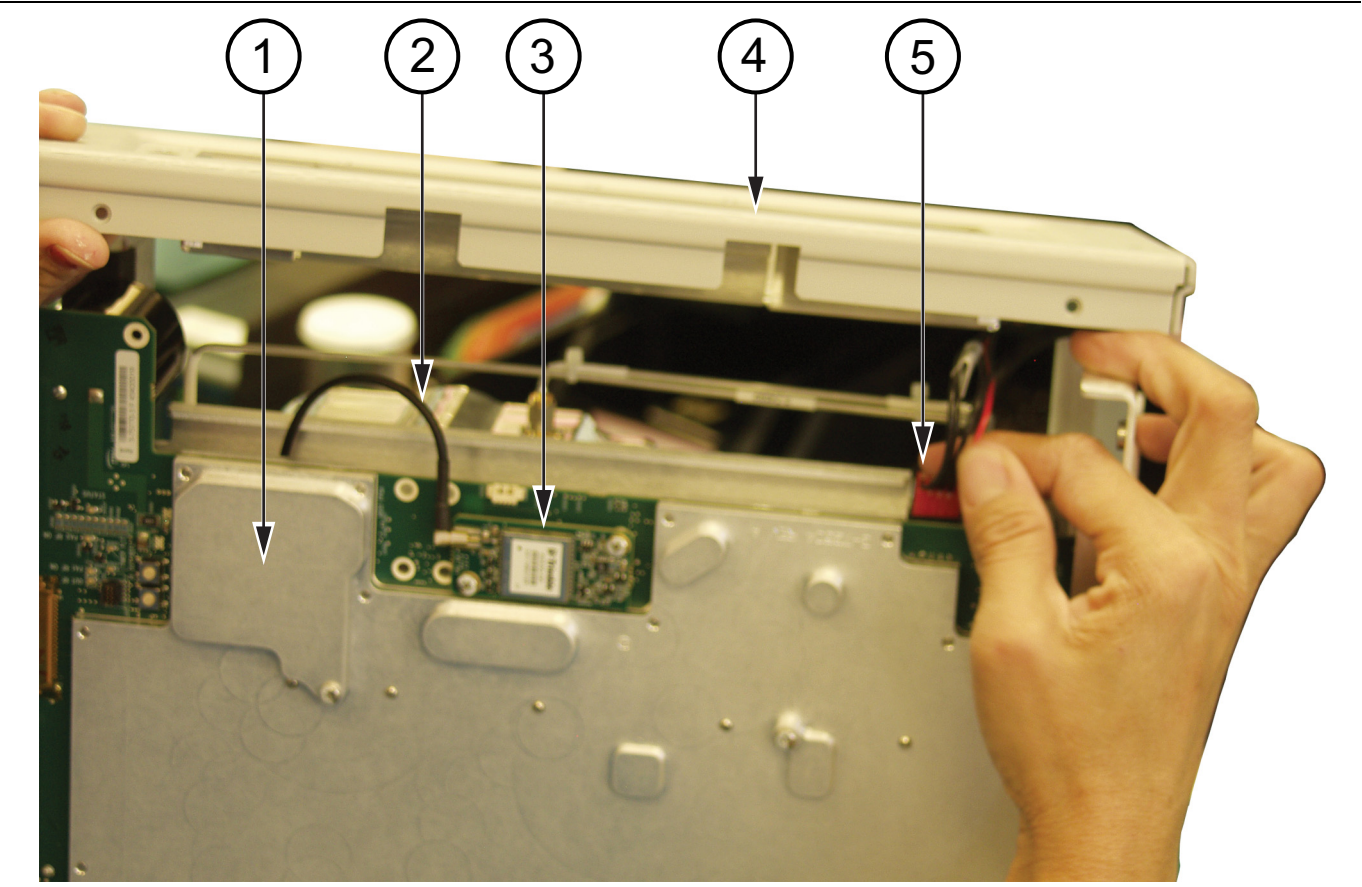

Figure 5-36. Battery Cable Connection to Motherboard
8. While removing the case bottom (item 4 in Figure 5-36), unplug the battery connector (item 5) from the motherboard (item 1). To replace or install Option 31, refer to “Replacing the GPS Module” on page 5-40.